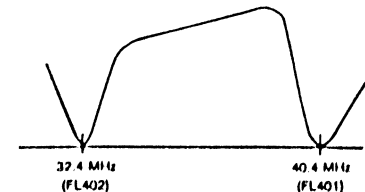

Fig. 12 TRAP Adjustment
5. Adjust the trap (FL 401, 402) in the tuner unit shown in Fig. 12.